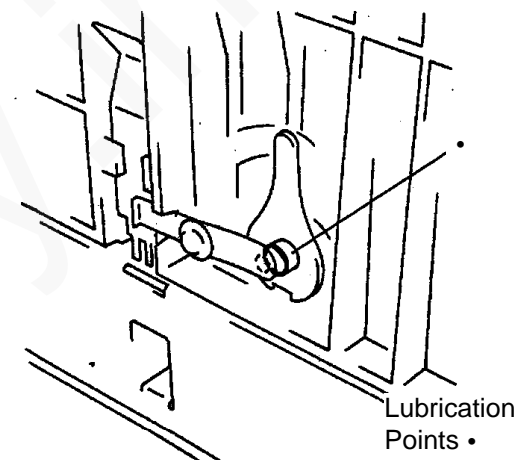

Figure 3. Ground plate
8. Lubricate the ground plate with conductive grease, P/N 070E00110 (fig. 3).